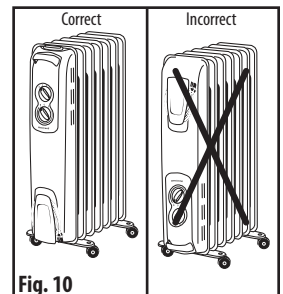

Fig. 10
- Check to make sure your heater is assembled correctly. If your heater is assembled and operating incorrectly it could result in a burning odor and smoke (Fig. 10).